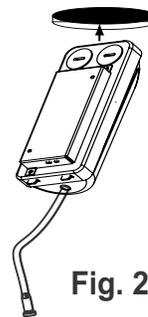
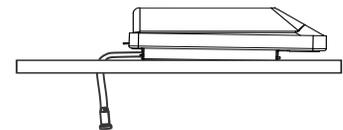

Fig. 2
Fig. 3
Step 2. Insert the power supply into the ceiling opening and secure by screw(s) on the ceiling. **Fig. 2 and Fig. 3**